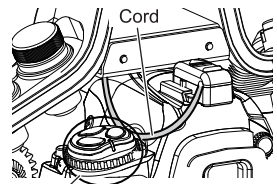

Fig.6
- Set the sync connector's cord so that it does not cross the camera's QUAL, WB, or ISO buttons (Fig.6).